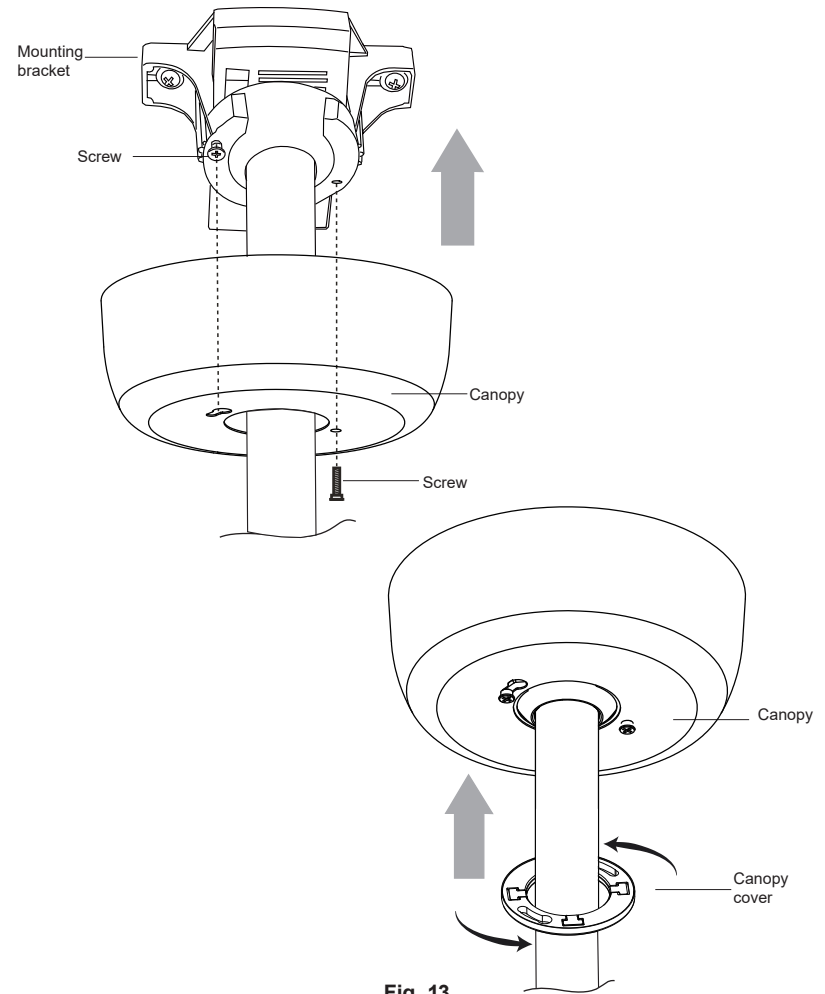

Fig. 13
Step 2. Carefully raise the canopy up to the mounting bracket, and ensure the loosened screw is inserted into the key hole on the canopy. Rotate the canopy clockwise. **(Fig. 13)**
Step 3. Secure the canopy by replacing the screw previously removed and tightening the screw previously loosened. **(Fig. 13)**
Step 4. Place the canopy cover on the canopy, and rotate the canopy cover clockwise until it locks into position. **(Fig. 13)**